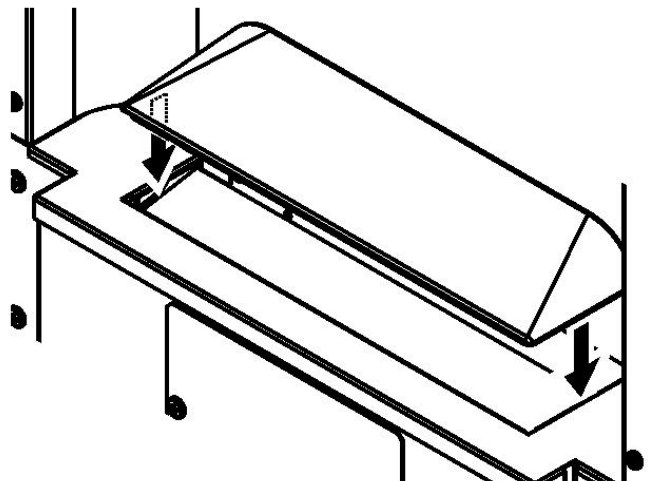

Figure 14. Fitting the fuel support.
3. Locate the fuel support as in figure 14.